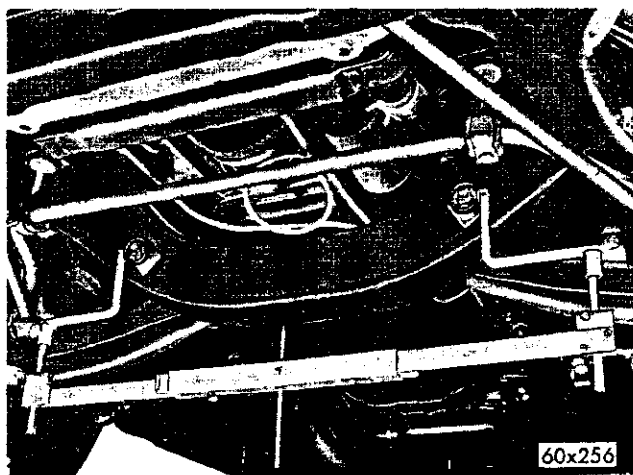

Fig. 13—Front Alignment Gauge Installed (Typical)
(1) Remove the cotterpins from the lower control arm shafts and position the 36 inch gauge on the shaft nuts, as shown in Figure 13 and 14.